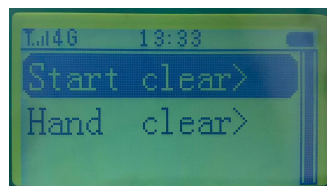

Figure 3
--Manual clearing (clearing after confirmation) is shown in Figures 3 and 4 below